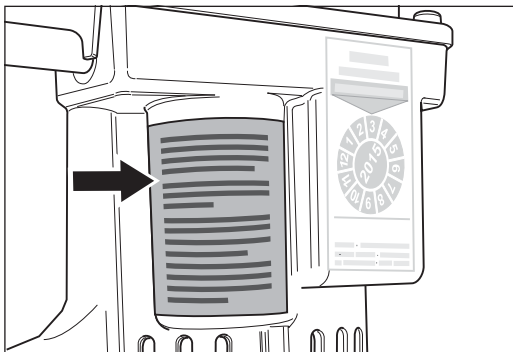

Fig. 19 Note the warning on the motor housing!
- **Note the warning on the motor housing (fig. 19)!**